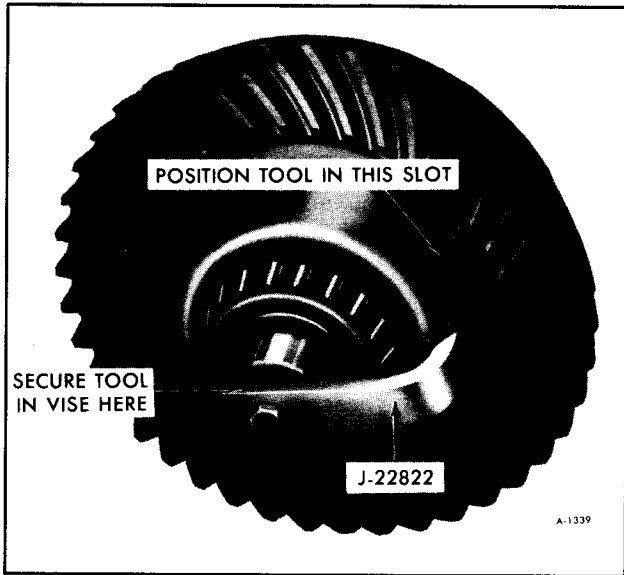

Figure 51—Installing Tool J-22822
2. Install Tool J-22822 into a vise and place case assembly over tool as shown in Figure 51. Install NEW ring gear attaching bolts in remaining holes and then remove three 7/16-20 x 1-3/4 in. bolts. Install remaining three NEW bolts into ring gear and torque bolts alternately in progressive stages to 85 ft. lbs.